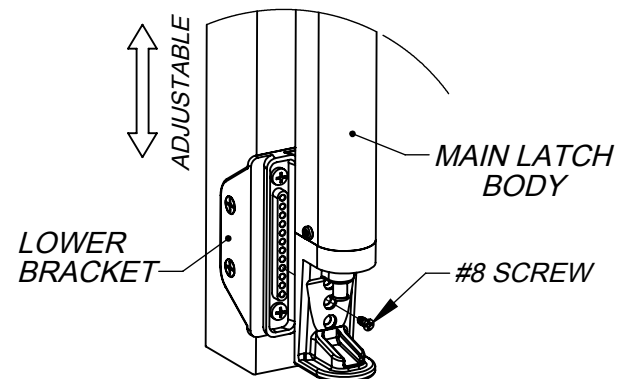

FIG. 3
2. Temporarily insert the Bottom Bracket and align the holes with the (3) Countersunk holes at the Bottom of the Main Body (Fig. 3). With the Latch at the PROPER HEIGHT, mark the Lower Bracket location on the Post.
3. Remove Main Body and attach the Lower Bracket with the supplied mounting screws (2) Flat Head and (2) Pan Head.
2. Align the holes of the Latch and Bottom Bracket, making sure that the Overall Latch Height is maintained, and secure with (1) #8 FlatHead Screw (Fig 3).